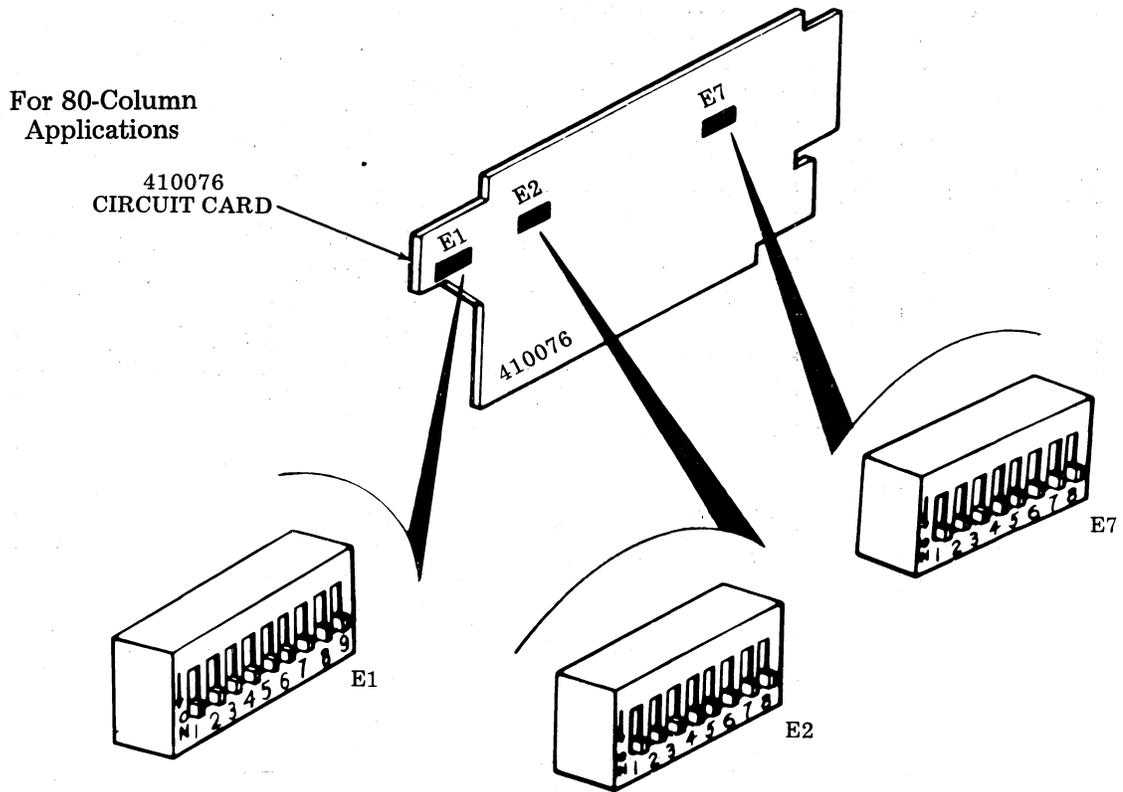

Fig. 106
4.31 Printer Options for 410076 Circuit Card. See Fig. 106.